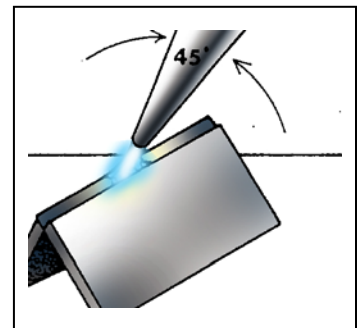

Figure 1
12. Carry the bead forward by moving the torch with a smooth, uniform motion. Refer to Figures 1, 2, and 3.